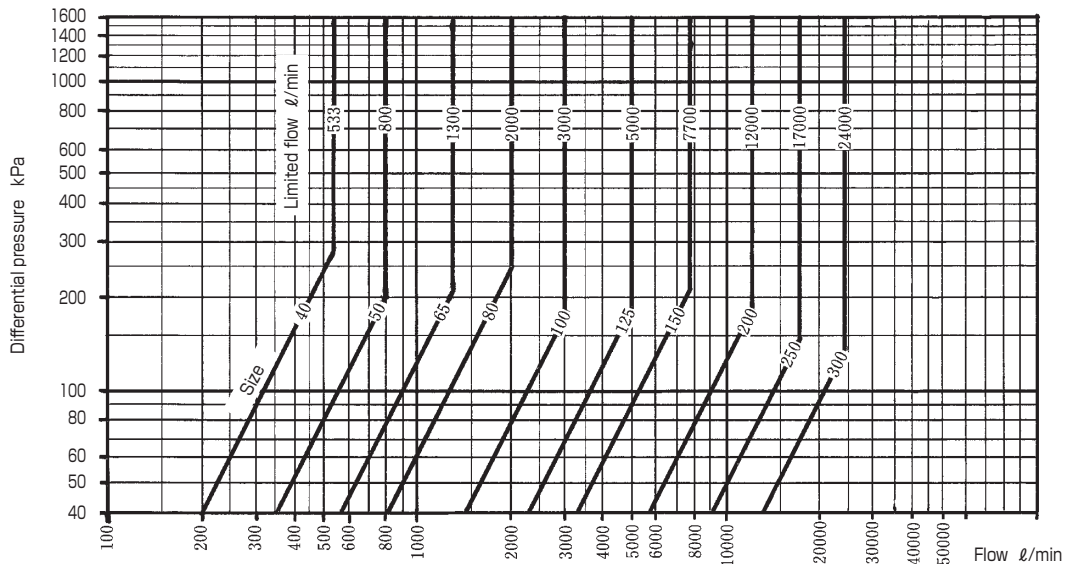

Fig. 7 RFD42-SFD42 sustaining valve, RFD42D differential pressure sustaining valve
- (2) If RMD31 is unsuitable, SFD42 should be selected for suitability using Fig. 7 by the same method as RMD31.